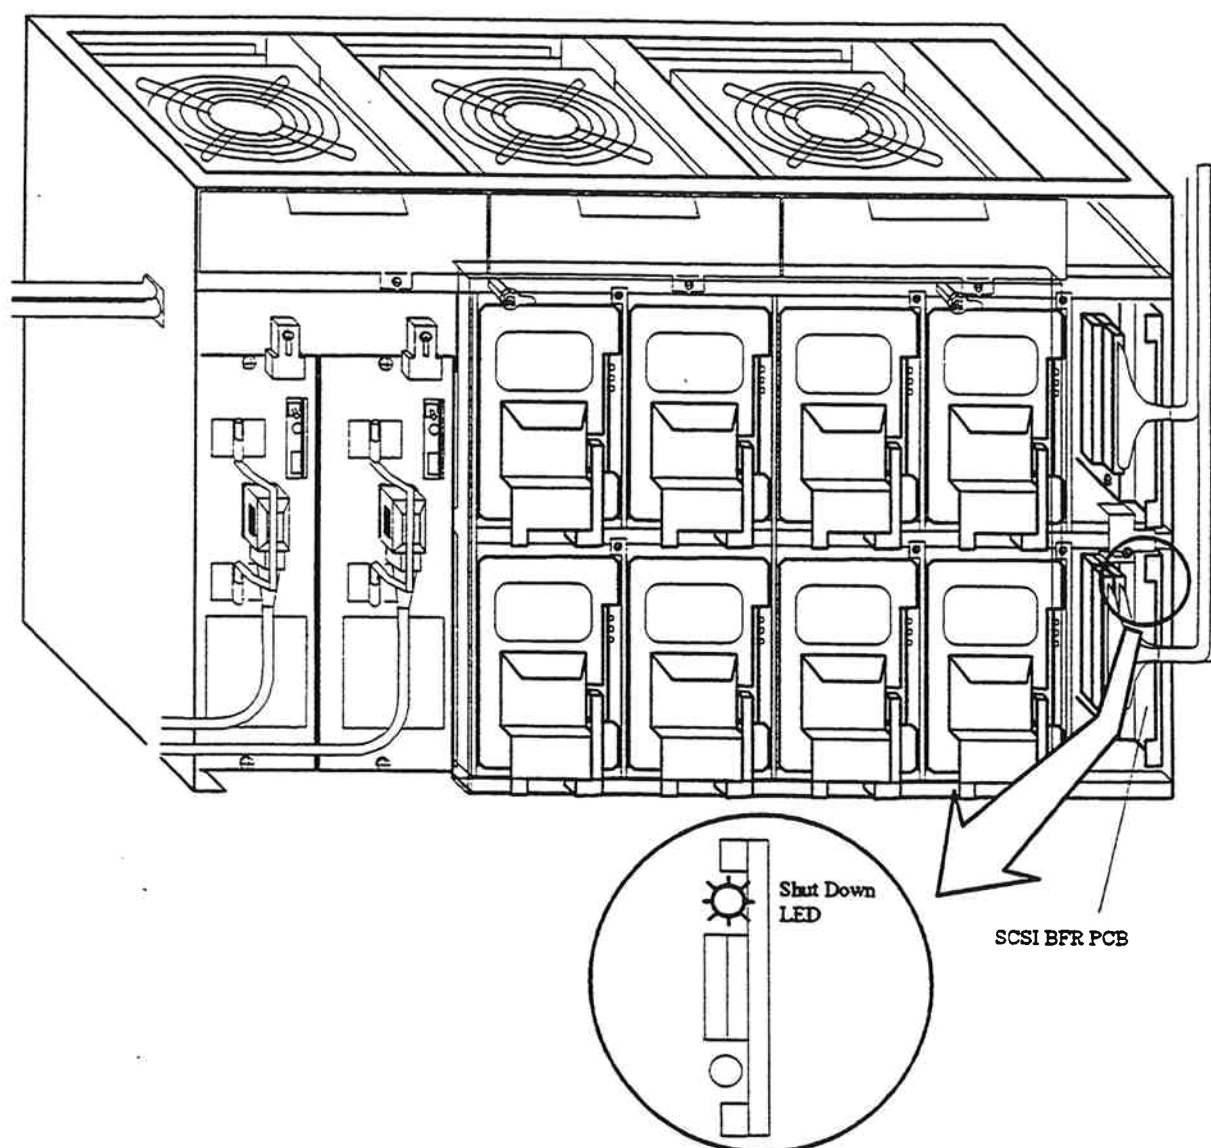

Fig. 3.4.3.2.4-4 Confirmation of the Shut Down LED Light
5. Disconnect the SCSI interface cables from the SCSI BFR PCBs in the first DKU chassis referring to figures 3.4.3.2.4-5 and 3.4.3.2.4-6.